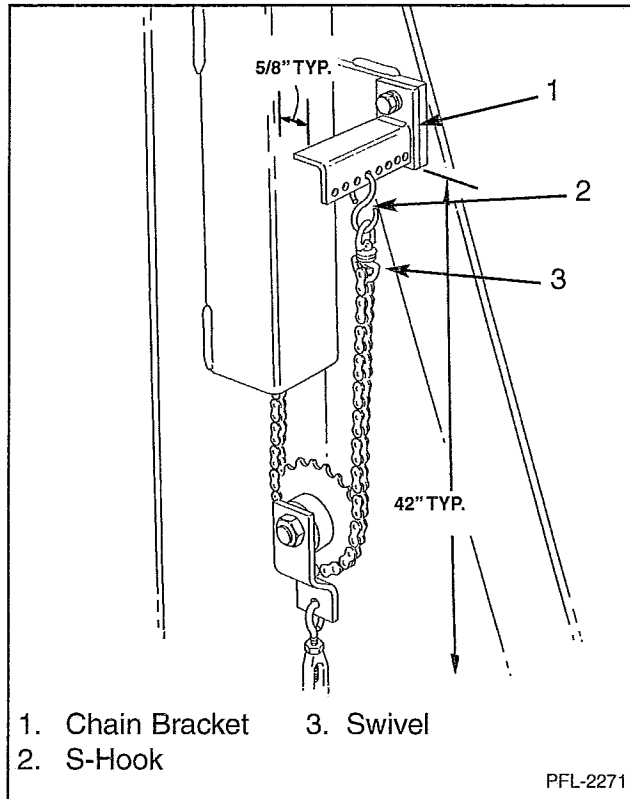

Figure 22
Bracket should be approximately 42" up from the carriage and away from the tube so the chain and swivels don't rub on the tube. See Figure 22.
10. Open the turnbuckle to its fullest point. Take S-hook and swivel and place on chain bracket. See Figure 22. Place the #35 chain coming from the chain tube around the sprocket and cut to length to meet the swivel. Attach to swivel with the masterlink.